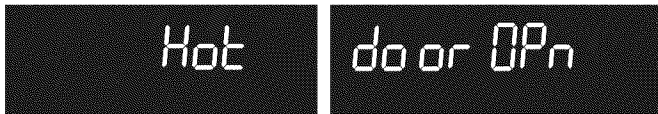

Figure 47: Hot oven showing door still locked (L) door Opn message will flash while door is opening once oven has cooled
1. Cln message will turn off and Hot will appear in display window (Figure 47).
2. If Self Clean has heated the oven to a high temperature, allow enough time for the oven to cool and the door Opn message to appear (Figure 47). When this message turns off the oven door may be opened.